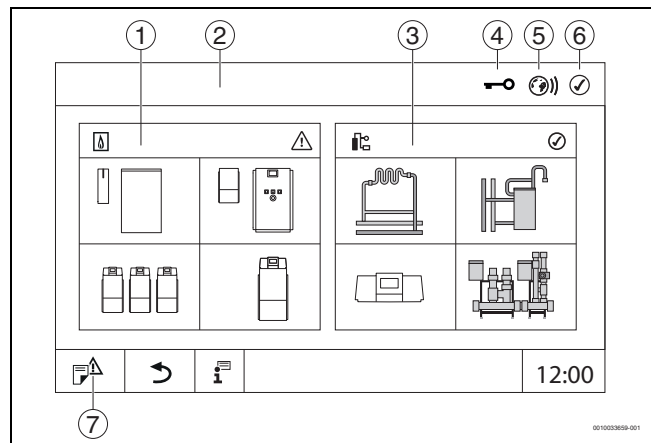

Fig. 9 System overview (example)
- ▶ Tap on **System** (→ Figure 9, [3], page 10).